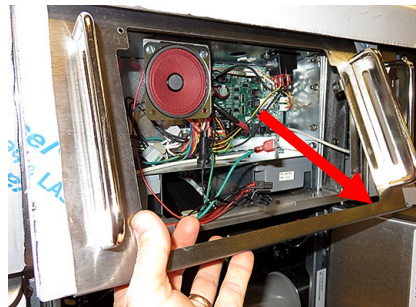

Figure 19
12. Remove the bezel by removing the two screws on the bottom of the bezel (see Figure 18) and tilting the bezel up from the bottom and lowering towards the front of the fryer (see Figure 19).